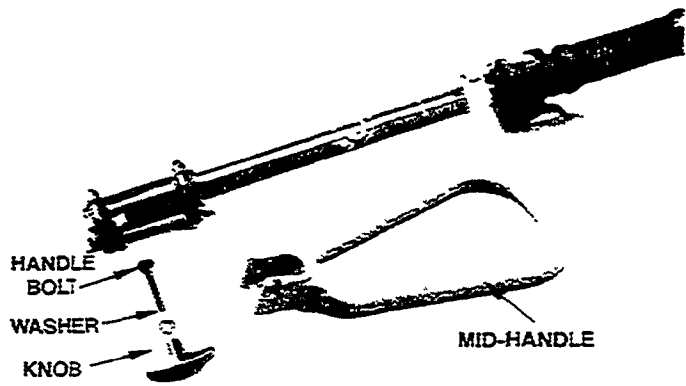

Figure 1
- Install bolt, washer and knob (Figure 1).